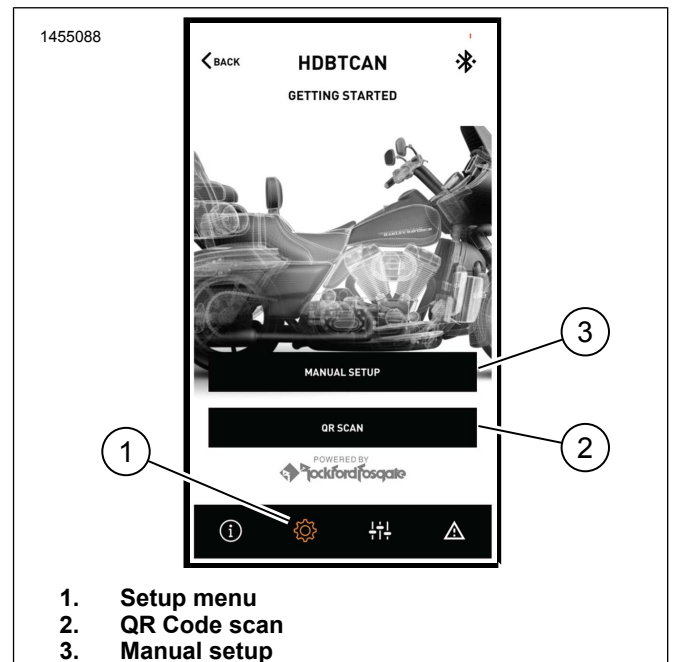

Figure 9. Setup Menu
3. See Figure 9. Setup menu screen.
- a. Setup menu icon (1).
- b. Use to scan QR code (2) on iSheet.